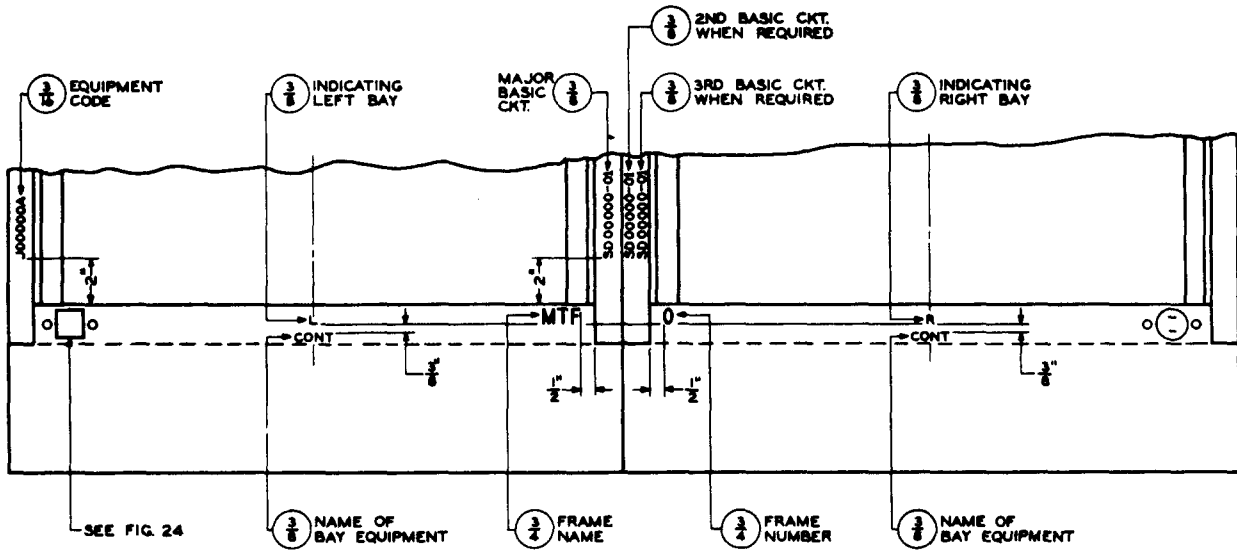

Fig. 17 - Front View of Double-bay, Box-type Frame Base
- (a) On the front slanted face of the frame base, located above the name of the bay equipment on the center of each bay, as shown in Fig. 17.